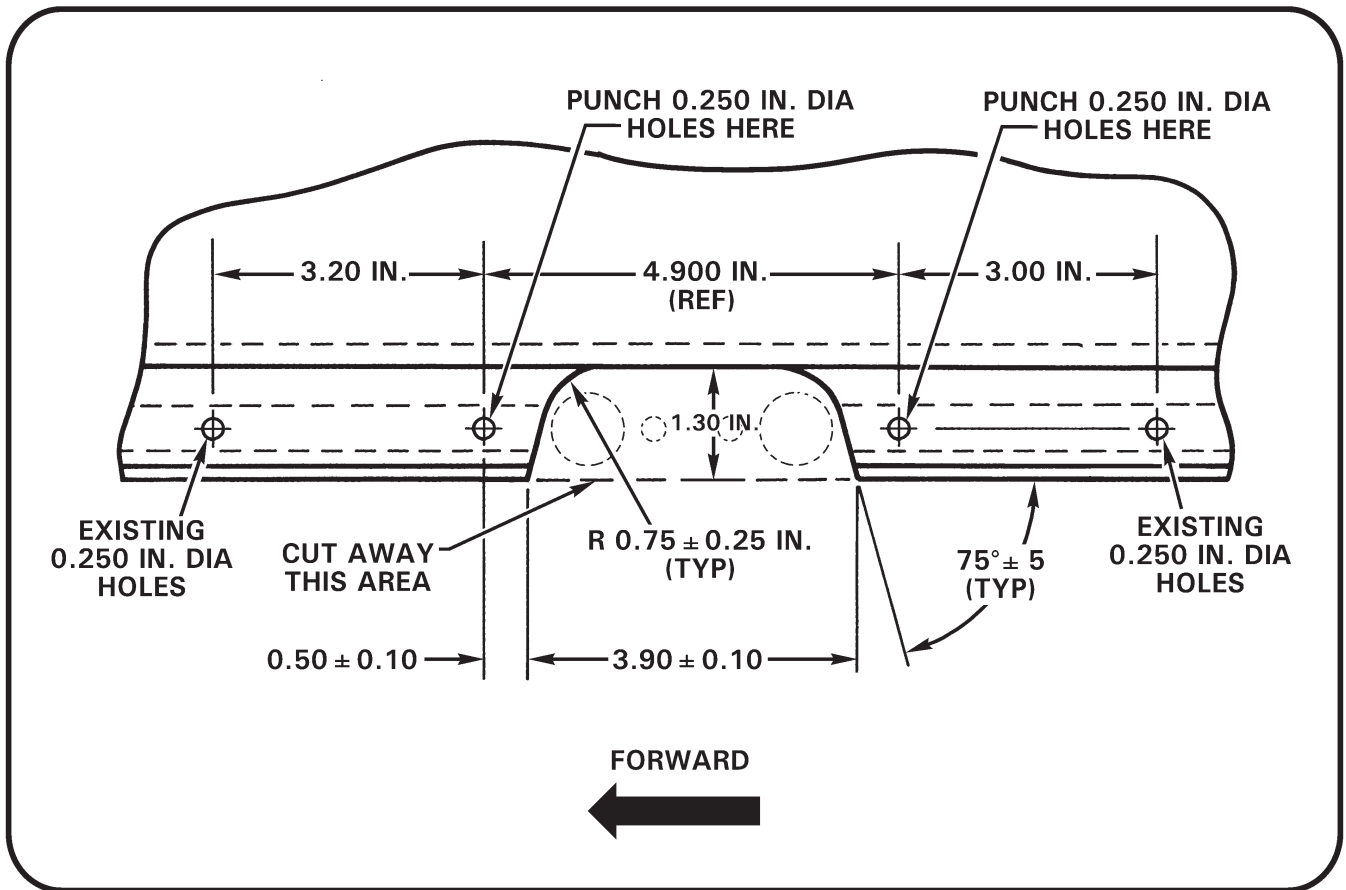

FIGURE 4
10. Refer to Figure 4. Using scissors, cut float and float cover as shown. Melt ends of webbing and rope on float girt with a soldering iron and sew loose material as required to prevent fraying. Punch 0.250-inch diameter holes through material in new locations as shown, using a leather punch or similar tool.